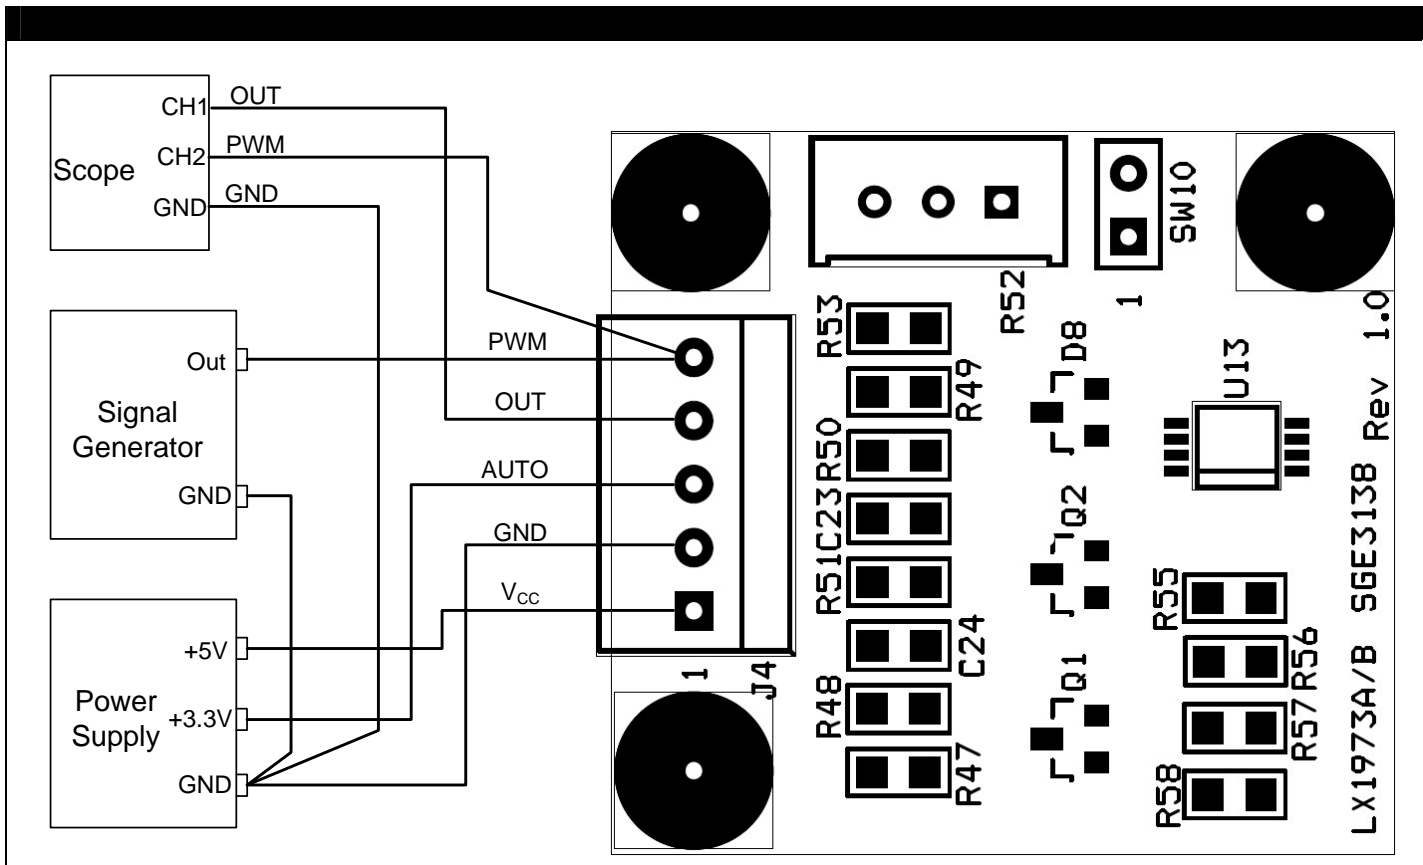

Figure 4: LX1973B Eval Typical Test Hookup
**Connections:** The LX1973B Evaluation Board has a 5-pin connector connecting to outside power and signals. The connection pin names and functions are listed below. Figure 4 is a suggested test connection diagram.
- 1) Make connections as shown in Figure 4. Apply 5V power source to the board. Measure Pin 1 and Pin 2 on connector J4 by using multimeter (Red lead to pin 1, black lead to pin 2) to verify +5V power is supplied to the board.